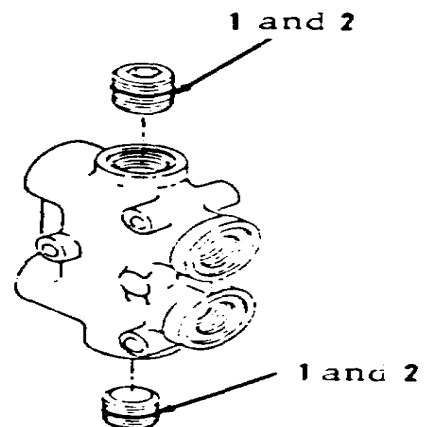

Figure 10-105.
- 1. Remove two items 1 and 2 as an assembly (Figure 10-105).
6. Install two items 2 and 1 as an assembly (Figure 10-105). Tighten two plugs (1) to 25 ft-lb torque.